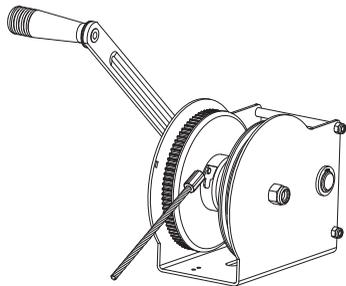

Fig. 6 Drum opening for wire with end sleeve
1. Put the end of the wire into the opening in the drum. See fig. 6.